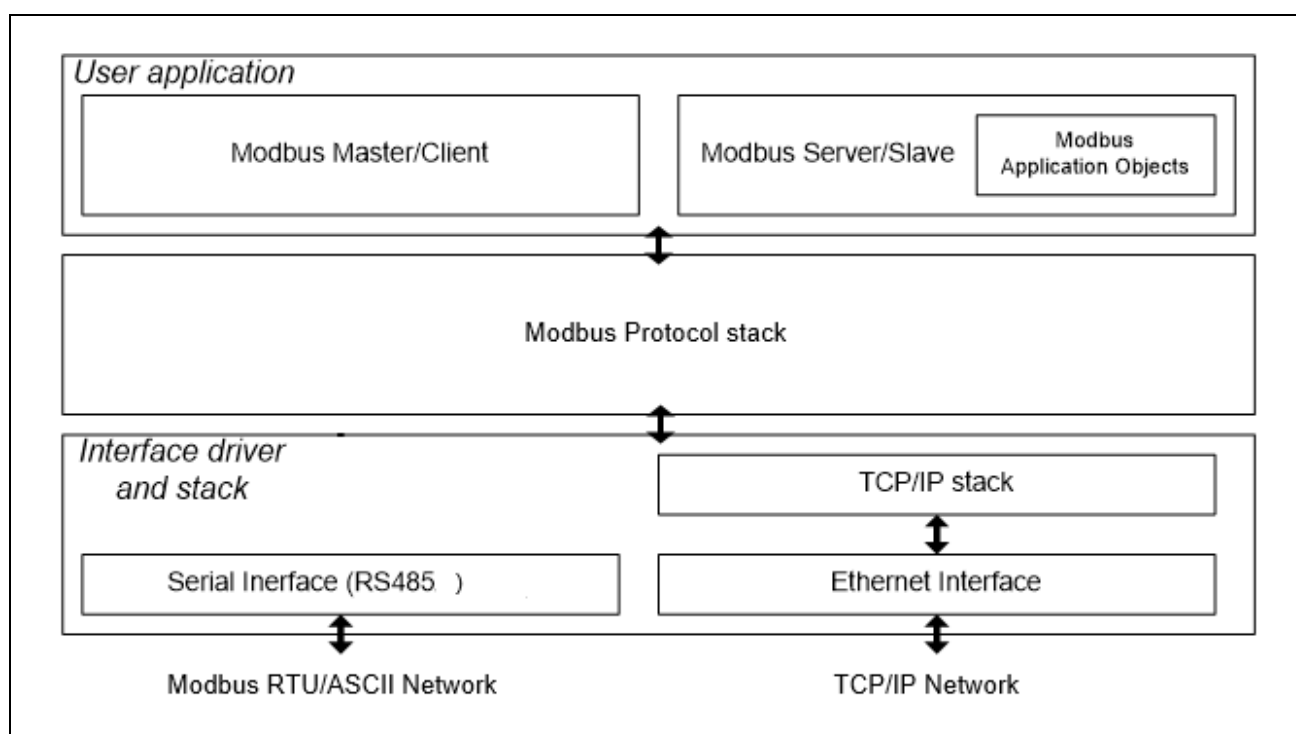

Figure 7.1 Outline of Modbus stack for RX72M
- (1) A set of software stacked in a hierarchy is called a protocol stack, selecting the functions required to realize the functions that are on the network. This stack is structured as shown in Figure 7.1.
- (2) This stack creates tasks using RTOS "μC3" manufactured by e-force. The stack works in multitasking using RTOS.
- (3) This stack can not use multiple timer channels for Modbus frame timing.